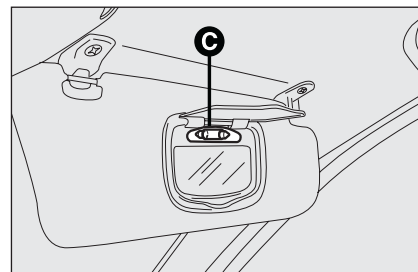

fig. 46
- ☐ replace the bulb **C**-fig. 46 releasing it from the side contacts making sure that the new bulb is correctly clamped between the contacts.